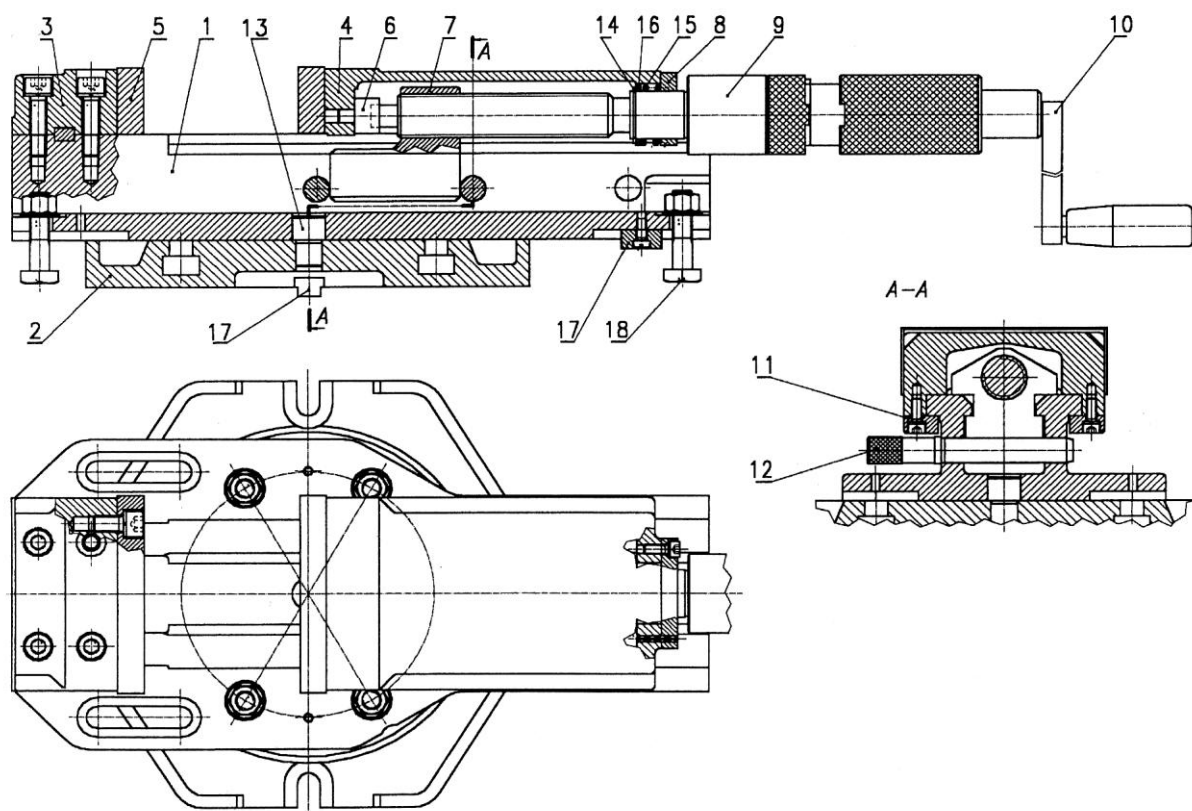

Fig. 1. Structure of the vice 6516-M with 6585 support.
3. STRUCTURE OF THE VICE (Fig. 1)
Prior to operation fasten the vice to the lathe table with square screws (18) fig. 1. In vices 6516 the fastening screws are installed in longitudinal indents in body. Retaining keys (17) - 2 pcs – are installed in grooves in the body.